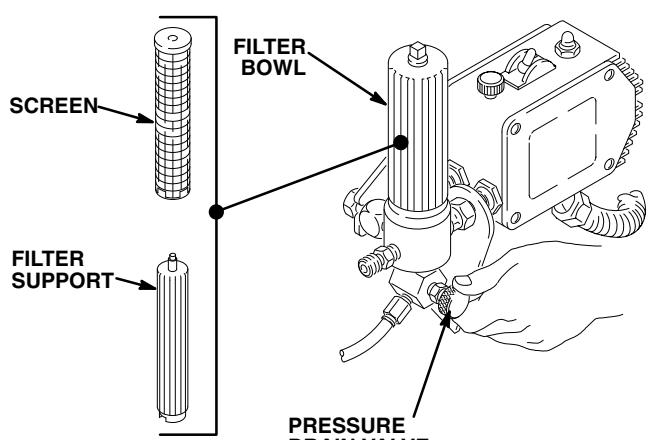

Fig 15-1
3. Remove the spray tip from the gun. Remove the filter bowl and screen; see manual 307-273. Clean the screen separately and install the bowl without the screen to flush it. See Fig 15-1.